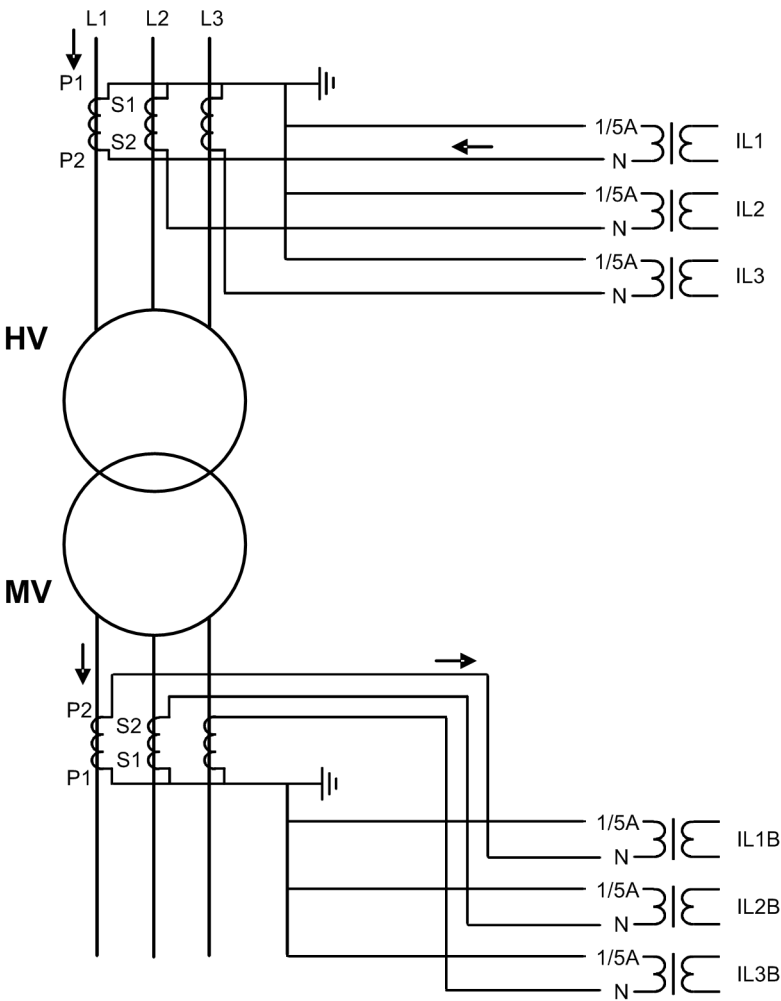
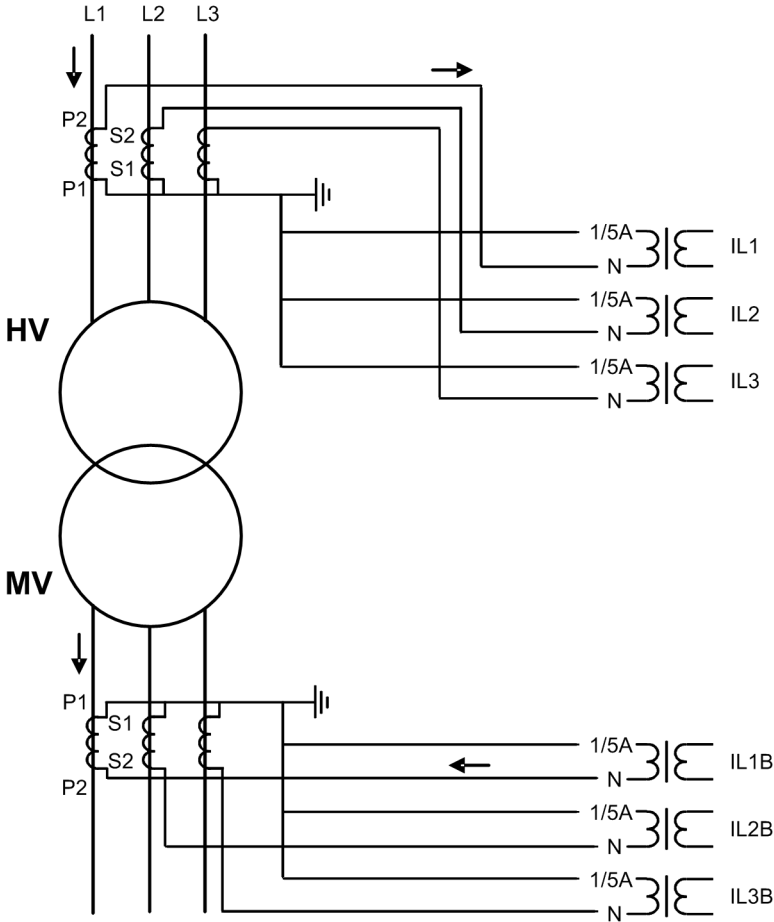

Figure 193: Connection example of current transformers of Type 1
Figure 194: Alternative connection example of current transformers of Type 1
- If the positive directions of the winding 1 and winding 2 IED currents are opposite, the *CT connection type* setting parameter is "Type 1". The connection examples of "Type 1" are as shown in Figure 193 and Figure 194.